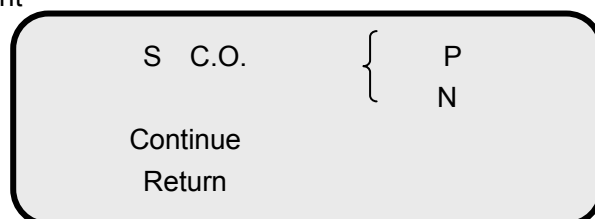

Fig. 11: Quality Judgment (1)
2. If the reagent specification does not prescribe, directly press **Enter** key to go to the interface of quality judgment (Fig. 11). If you want to return to the main menu, press **Reset** key; if you want to return to the superior menu, press till the symbol in front of **Return** becomes and then press **Enter** key.